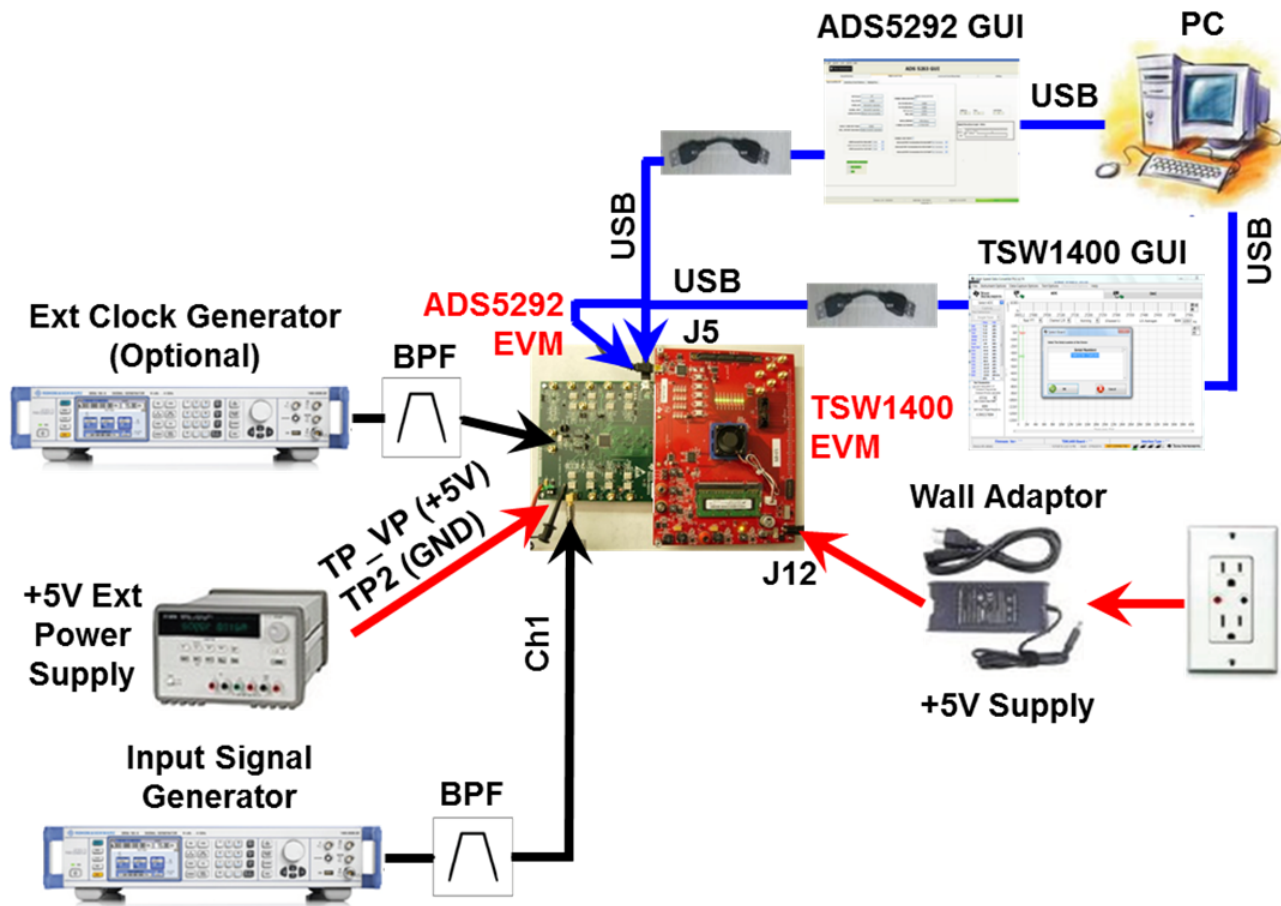

Figure 1. Evaluation Setup
Figure 1 shows an overview of the evaluation setup that includes the ADS5292EVM evaluation module (EVM), TSW1400EVM, external equipment, personal computer (PC), and software requirements.